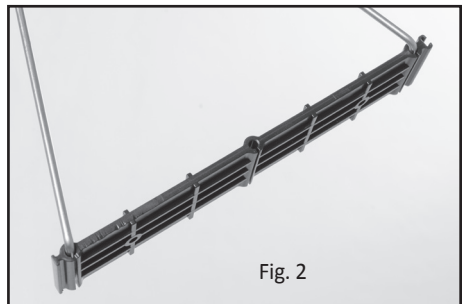

Fig. 2
2. Insert the stands into the plates individually. Take note that the side with gap lines should be downward (see Fig. 2).